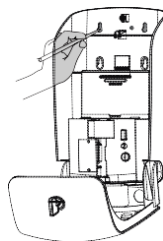

Figure 2
5. Use the back plate for the drill marks and mark the 5 drill locations (Fig. 2).